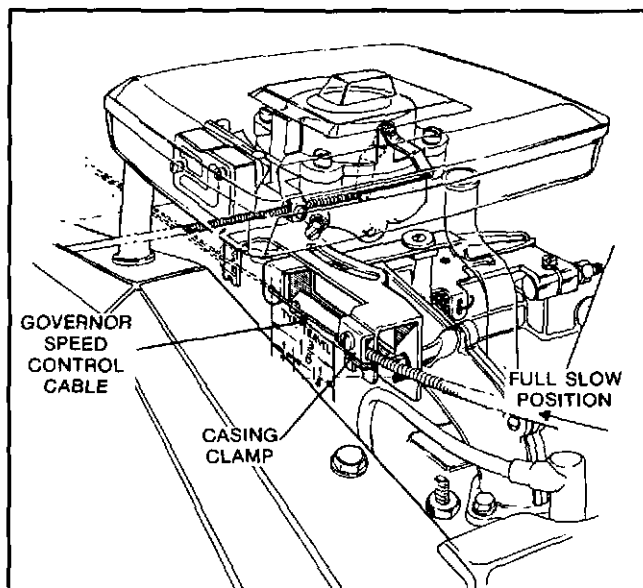

Fig. 1. Remote Control Adjustment Model Series 401400
1. Loosen remote control cable casing clamp at carburetor. See Fig. 1 or 2.
3. Slide remote control cable casing backward or forward under casing clamp at carburetor, until governor speed control lever at carburetor is in full slow (idle) position. See Fig. 1 or 2.